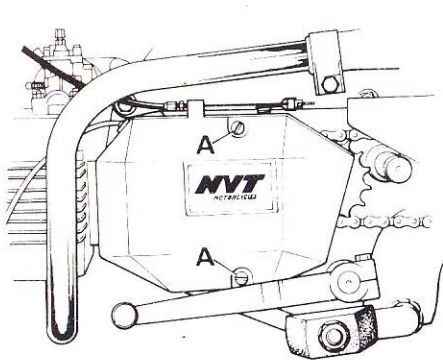
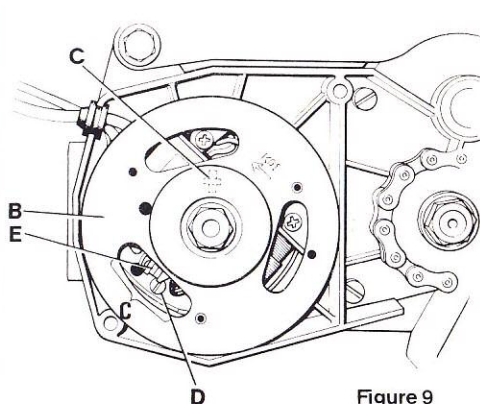

Figure 8
Figure 9
Remove two screws (A) to release the left side outer cover, Fig. 8 . Turn the flywheel (B) until window (C) is in the position shown in Fig. 9 . The contact points are then visible.